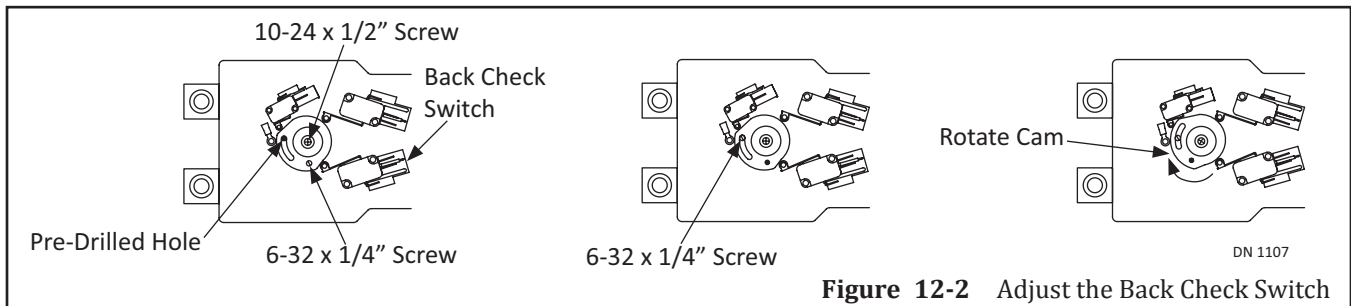

Figure 12-2 Adjust the Back Check Switch
1. Remove the 6-32 x 1/4 inch screw. Please see Figure 12-2.
2. Go to the c-shaped slot located to the Left or Right of the 6-32 x 1/4 inch screw. Locate (1) pre-drilled hole.
2. Remove the 6-32 x 1/4 inch screw with a 1/4 inch open end wrench. Please see Figure 12-2.
3. Go to the C-shaped slot located to the Left or Right of the 6-32 x 1/4 inch screw. Locate (1) pre-drilled hole.